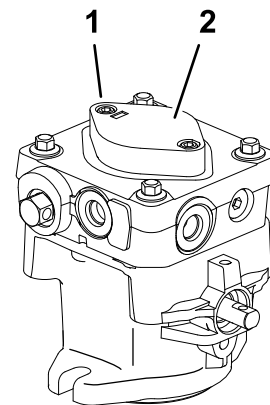

Figure 51
7. To prime the charge pump, loosen two hex socket head capscrews (Figure 51) 1-1/2 turns only. Make sure engine is not running. Lift charge pump housing up from under housing. Retighten capscrews. Do this for both pumps.